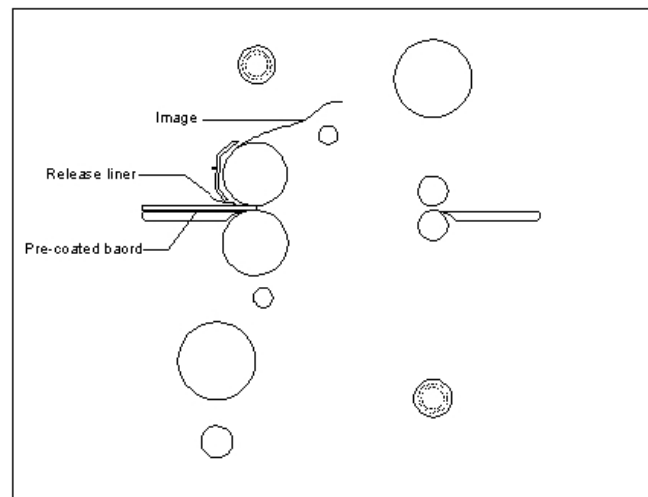

Fig 35
(Figure 35)
1. This application can also be performed from the front operating position. Reference Figure 35 for illustration.